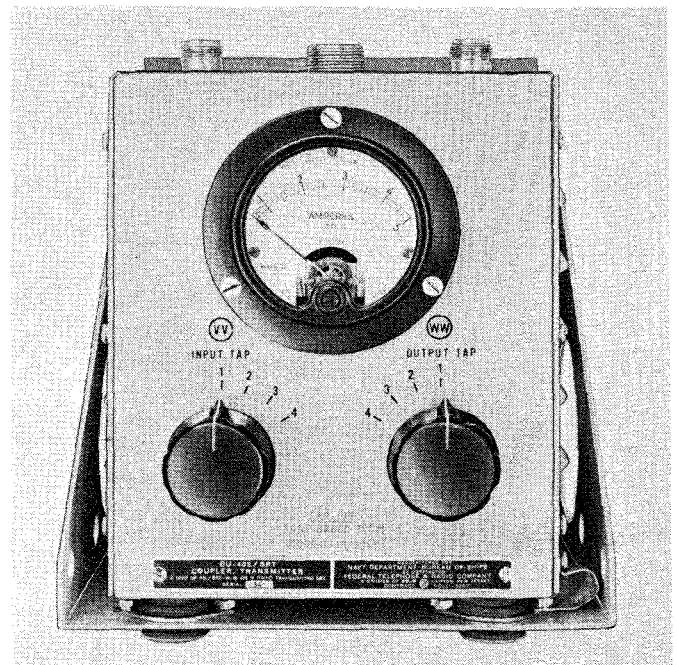

Figure 4-8. Transmitter Coupler CU-402/SRT (Load Adjusting Unit, LAU), Front Panel Controls and Indicators
f. TRANSMITTER COUPLER CU-402/SRT (LOAD ADJUSTING UNIT).—The load adjusting unit (LAU) (figure 4-8) has two controls and one indicator. The INPUT TAP (V) and OUTPUT TAP (W) controls select input and output taps on an impedance transformer that is inserted in the transmission line between the transmitter output and the antenna tuning equipment to further match the impedance presented to the transmitter output to the characteristic 50-ohm value. The r-f ammeter measures transmission line current at the output of the load adjusting unit.